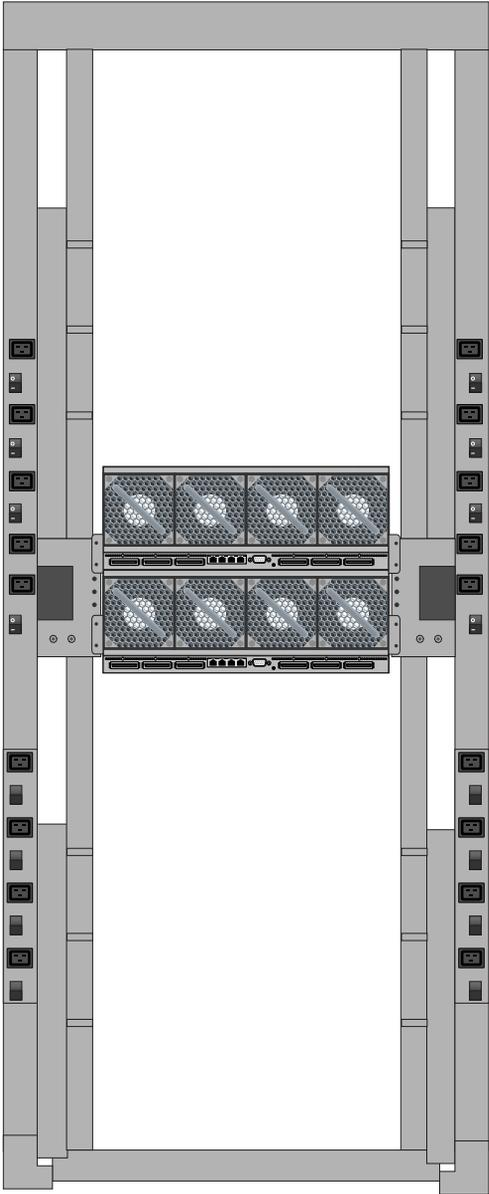

Figure 3-6 Altix UV 100 IRU Rear Components Example
- **CMC and external NUMalink Connectors.** The CMC and external NUMalink connectors are located on the rear of each IRU below the unit's fans (see Figure 3-6 on page 43).